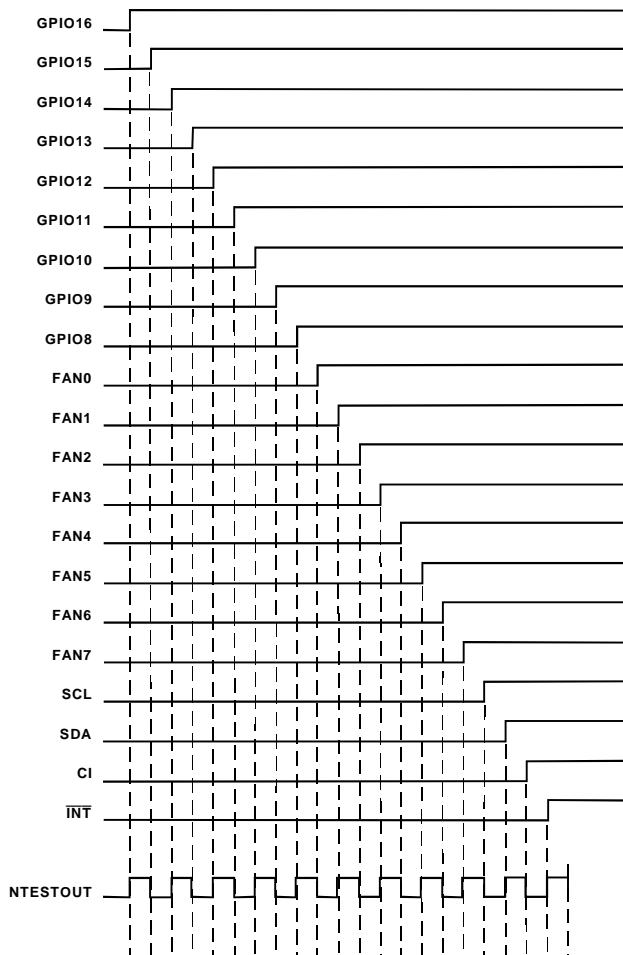

Figure 23. NAND Tree Test Taking Inputs High In Turn
1. Start with all inputs low and take them high in turn, starting with the input nearest to NTEST\_OUT (GPIO16/ $\overline{\text{THERM}}$ ) and working back up the tree to the input furthest from NTESTOUT (INT). This should give the characteristic output pattern shown in Figure 23, with NTESTOUT toggling each time an input is taken high.